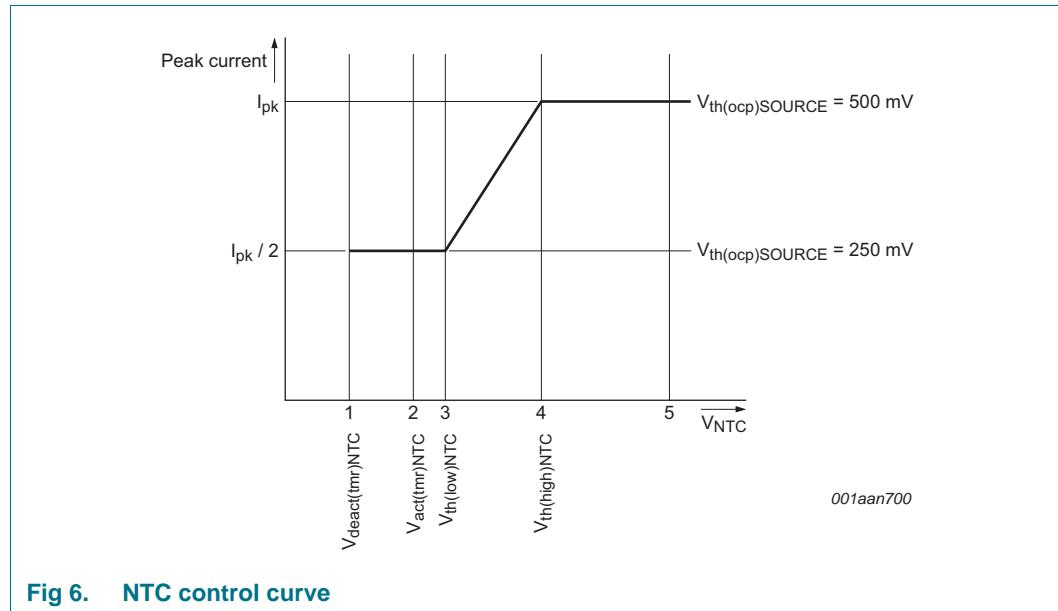

Fig 6. NTC control curve
The NTC pin can be used as a control method for LED thermal protection. Alternatively, the pin can be used as an input to disable/enable light output using a digital signal (PWM dimming). The pin has an internal current source that generates the current of $I_{\text{offset(NTC)}}$. An NTC resistor to monitor the LED temperature can be directly connected to the NTC pin. Depending on the resistance value and the corresponding voltage on the NTC pin, the converter reacts as shown in Figure 6.
When the voltage on the NTC pin is higher than $V_{\text{th}(\text{high})\text{NTC}}$ see Figure 6 (4), the converter delivers nominal output current. When the voltage is lower than this level, the peak current is gradually reduced until $V_{\text{th}(\text{low})\text{NTC}}$ is reached, see Figure 6 (3). The peak current is now half the peak current of nominal operation. When $V_{\text{act}(\text{tmr})\text{NTC}}$ is passed, see Figure 6 (2) a timer starts to run to distinguish between the following situations:
- If the low-level $V_{\text{deact}(\text{tmr})\text{NTC}}$ is not reached within time $t_{\text{to}(\text{deact})\text{NTC}}$, Figure 6 (1) LED overtemperature is detected. The IC stops switching and attempts to restart from the HV pin voltage. Restart takes place when the voltage on NTC pin is higher than $V_{\text{th}(\text{high})\text{NTC}}$, see Figure 6 (4). It is assumed that the reduction in peak current did not result in a lower NTC temperature and LED OTP is activated.
- If the low-level $V_{\text{deact}(\text{tmr})\text{NTC}}$ is reached within the time $t_{\text{to}(\text{deact})\text{NTC}}$, Figure 6 (1) it is assumed that the pin is pulled down externally. The restart function is not triggered. Instead, the output current is reduced to zero. PWM dimming can be implemented this way. The output current rises again when the voltage is higher than $V_{\text{deact}(\text{tmr})\text{NTC}}$.
The NTC pin can be used to make a soft start function. During switch-on, the level on the NTC pin is low. By connecting a capacitor (in parallel with the NTC resistor), a time constant can be defined. The time constant causes the level on the NTC pin to increase slowly. When passing level $V_{\text{th}(\text{low})\text{NTC}}$ Figure 6 (3), the converter starts with half of the maximum current. The output current slowly increases to maximum when $V_{\text{th}(\text{high})\text{NTC}}$ Figure 6 (4) is reached.